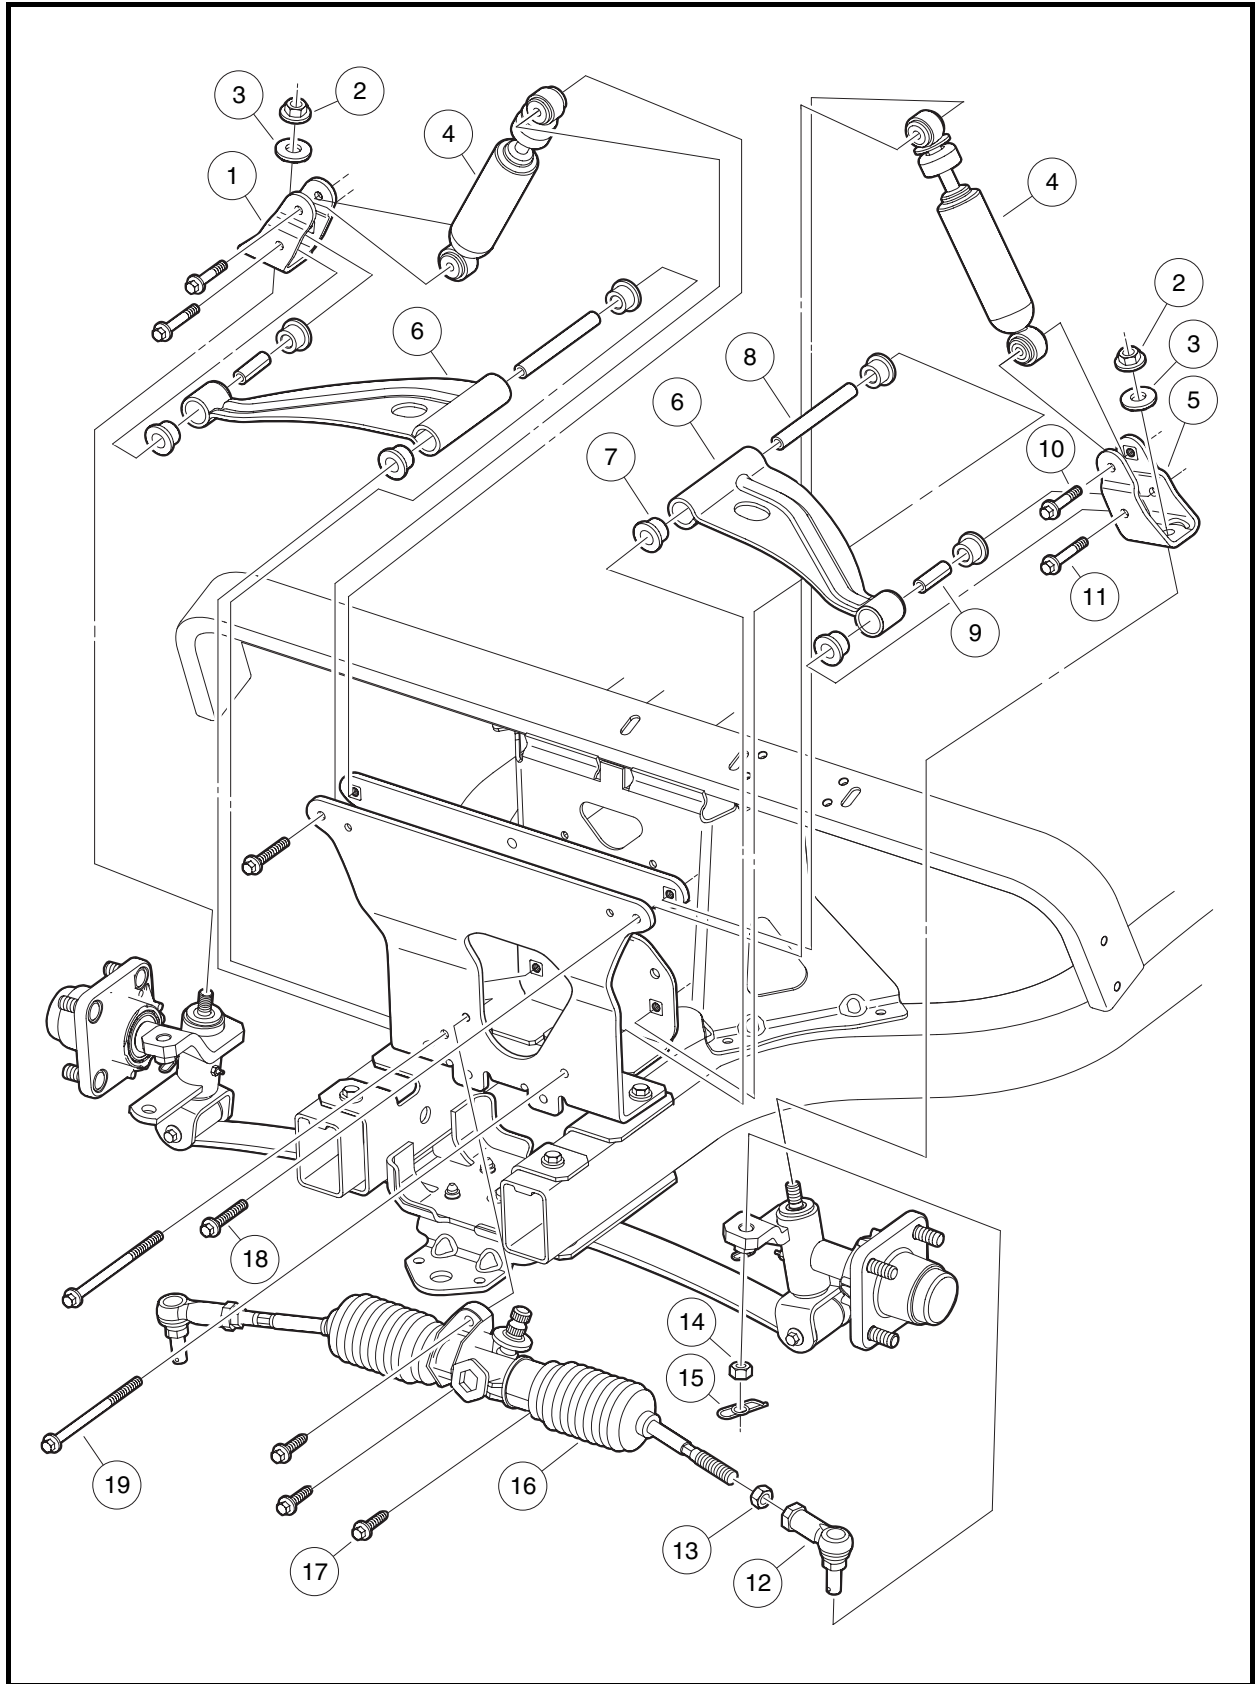

Figure 7-18 Upper Front Suspension Assembly
1. Loosen jam nuts (13) to allow later rotation of the tie rod ends (12) (**Figure 7-18, Page 7-15**).
2. Remove the retaining pins (15) and retaining nuts (14).
1. Thread tie rod ends (12) onto steering gear to a depth of 1/2 inch (12.5 mm) (**Figure 7-18, Page 7-15**).
2. Install tie rod ends (12) into the spindle tabs. Install the retaining nuts (14) and retaining pins (15) (**Figure 7-18, Page 7-15**).
2. Remove retaining pins (15) and nuts (14), then remove tie rod ends (12) from the tabs on the spindles (**Figure 7-18, Page 7-15**).
5. Attach the tie rod ends (12) to the spindle tabs, then install and tighten the nuts (14) to 70 ft-lb (95 N·m). Install the retaining pins (15) **(Figure 7-18, Page 7-15)**.
3. Remove bolts (17) and move rack and pinion to allow clearance for bolt (19) **(Figure 7-18, Page 7-15)**.
5. Remove the control arm (6).
6. Inspect the bushings (7) and sleeves (8 and 9) in the control arm and replace them if necessary.
1. Install the control arm in reverse order of removal. Tighten the control arm bolts (11 and 19) to 20 ft-lb (27 N·m) (**Figure 7-18, Page 7-15**). Tighten three rack and pinion mounting bolts (17) to 22 ft-lb (30 N·m).
2. Remove the upper bolt (18) (**Figure 7-18, Page 7-15**).
3. Remove the lower bolt (10).